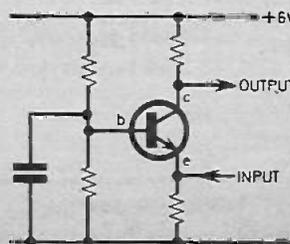

Fig. 19.3. Single-stage common-base amplifier.
- (c) The common-base amplifier shown in Fig. 19.3 must have the normal d.c. bias on the base but it must be held at signal ground. The capacitor takes care of this.